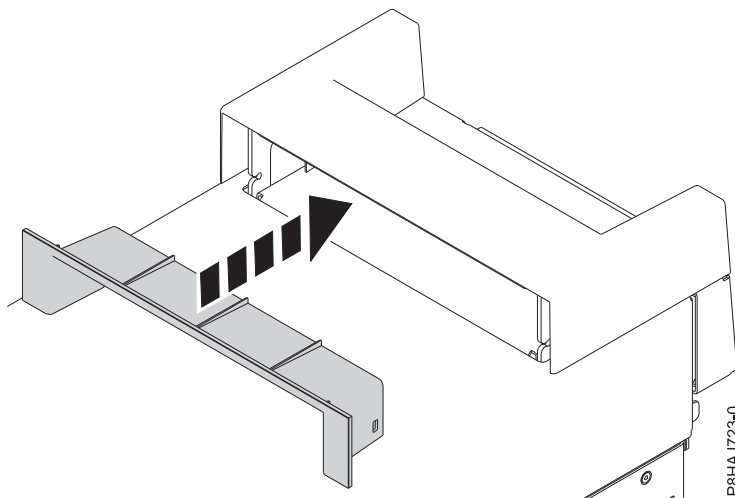

Figure 122. Inserting the piece within the handle cover on an 8286-41A stand-alone system
2. Insert the piece within the handle cover by pushing it firmly into the handle cover as shown in Figure 122.